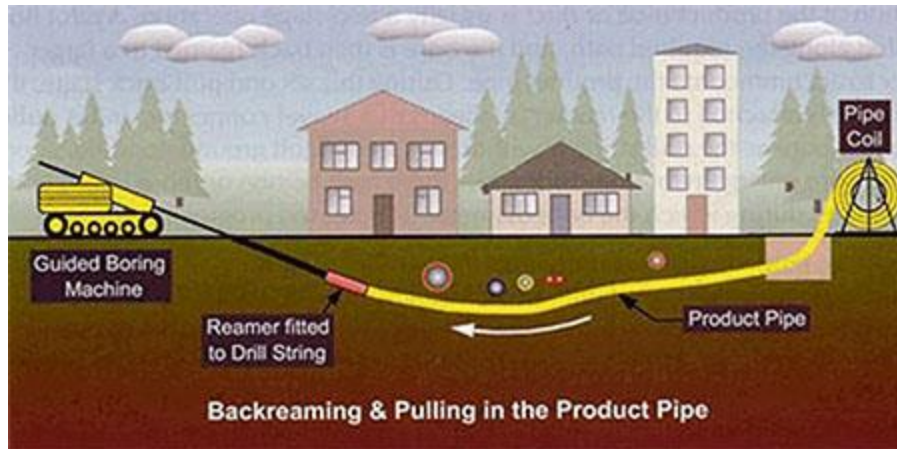

Figure 2: Backreaming and pulling the product.
- **Enlarge the Bore:** Once the pilot bore reaches the reception pit, the drill head is removed and a back reamer is attached to the drill stem. HDD machine operators pull the back reamer from the exit point through the pilot bore to the entry point, making the bore hole larger. The back reamer is designed with cutters and has nozzles to eject drilling fluid. (See Figure 2.)
- **Install Conduit/Casing.** Concurrent with the bore-enlarging operation, conduit or casing (i.e., product pipe) is attached to the back reamer and pulled into the bore until it is pulled to the entry point, where the drill stem and back reamer are removed. During the entire operation, the tracker continues to monitor with the handheld device and the potholes to ensure that no utilities or obstacles are hit. (See Figure 2.)